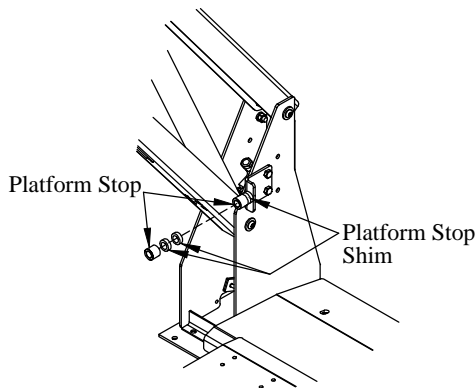

Figure 24: Platform stops.
3. **Check** if the platform loading surface is even with base plate cover (Figure 24).
4. **Position** the platform so that it is even with the top of the base plate cover (Figure 24).
Make sure to use the same number of shims in each side (Figure 24).